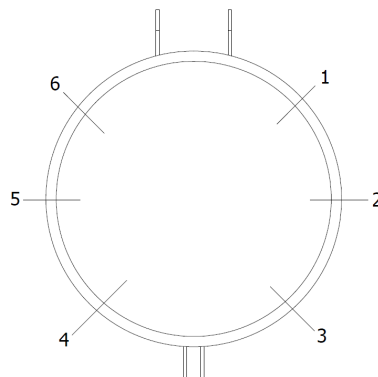
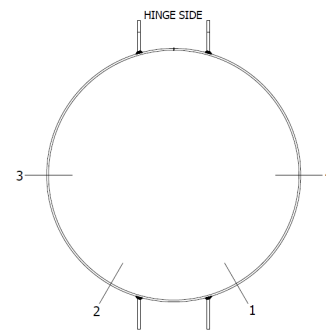

Figure 2. - Test Strip Locations (20” & 30”)
Figure 3. - Test Strip Locations (16”)
- b. With the hatch cover open, place all six test strips as shown in Figure 2, making sure the holes are facing outward. Spacing between test strips is 45 degrees. Test strips are not required at the hinge or latch location. For 16” carbon black hatch covers, place four test strips as shown in Figure 3.